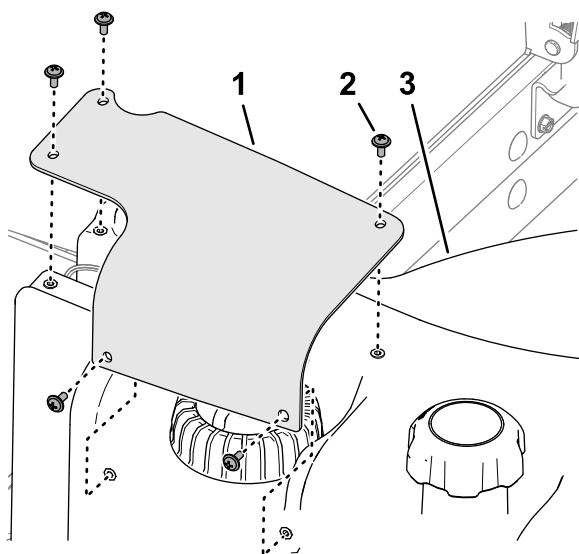

Figure 87
2. Remove the 5 Phillips-head screws that secure the fuel-sender cover to the fuel tank, and remove the cover (Figure 87).